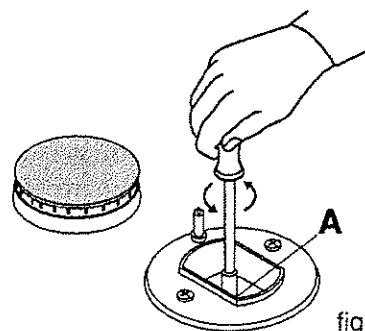

fig.16
- Unscrew the nozzles "A" (fig.16) using a 7 mm socket wrench and replace them with the ones which have a diameter suitable for the type of gas to be used, according to the table 1 "burners and nozzles specifications).